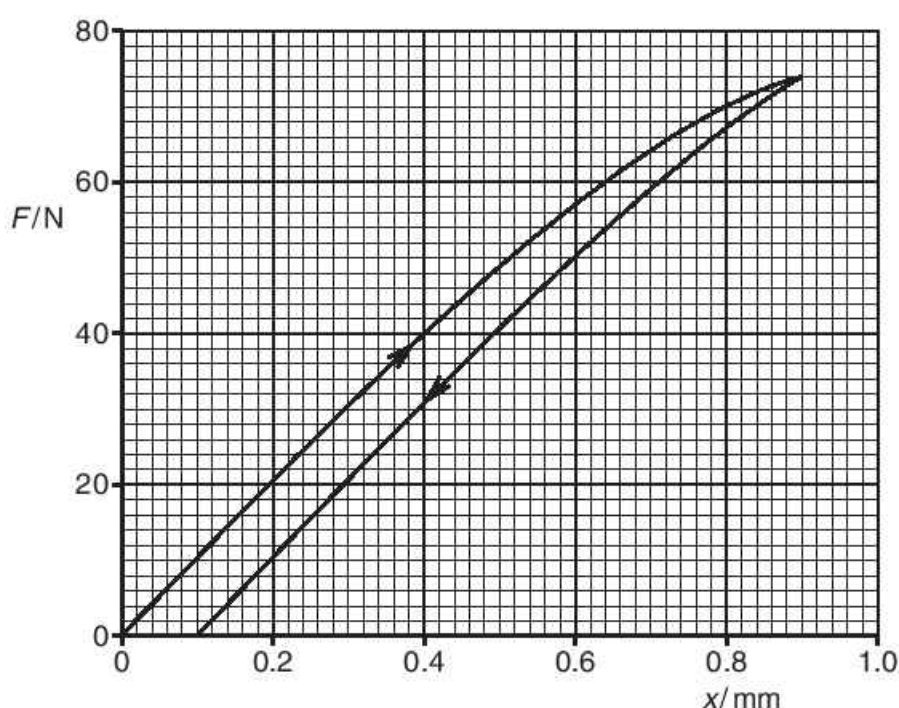

Fig. 4.1
The variation with extension x of the tension F in the wire is shown in Fig. 4.1.
- (i) On Fig. 4.1, shade the area that represents the energy E_S . [1]
- (ii) Use Fig. 4.1 to calculate the energy E_S .